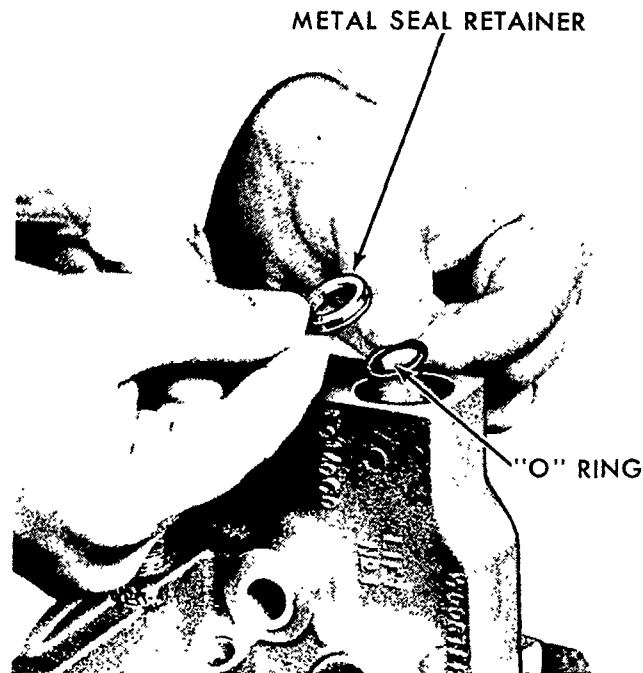

Figure 11
4. Push the handle end of the spool(s) approximately $\frac{3}{4}$ inch (19.05 mm) out of the rear of the valve body to permit the installation of the front O-ring(s) and retainer(s), Figure 11.